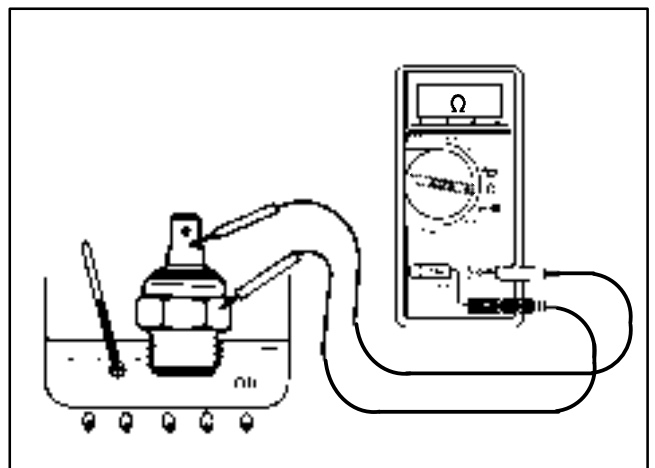

Figure 70
3. Put the end of the switch in a container of oil with a thermometer and slowly heat the oil (Fig. 70).